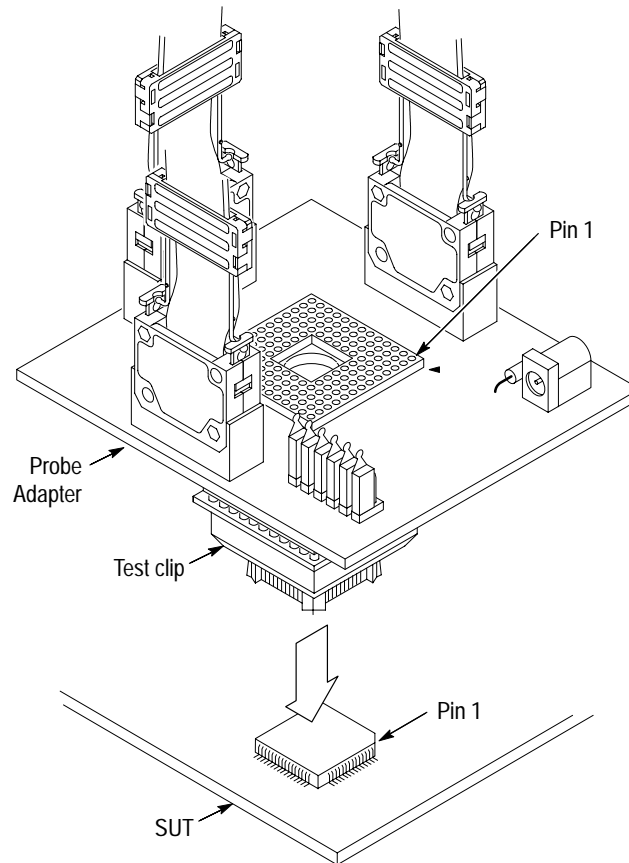

Figure 1–4: Placing the probe adapter assembly onto the SUT
8. Place the probe adapter onto the SUT as shown in Figure 1–4.